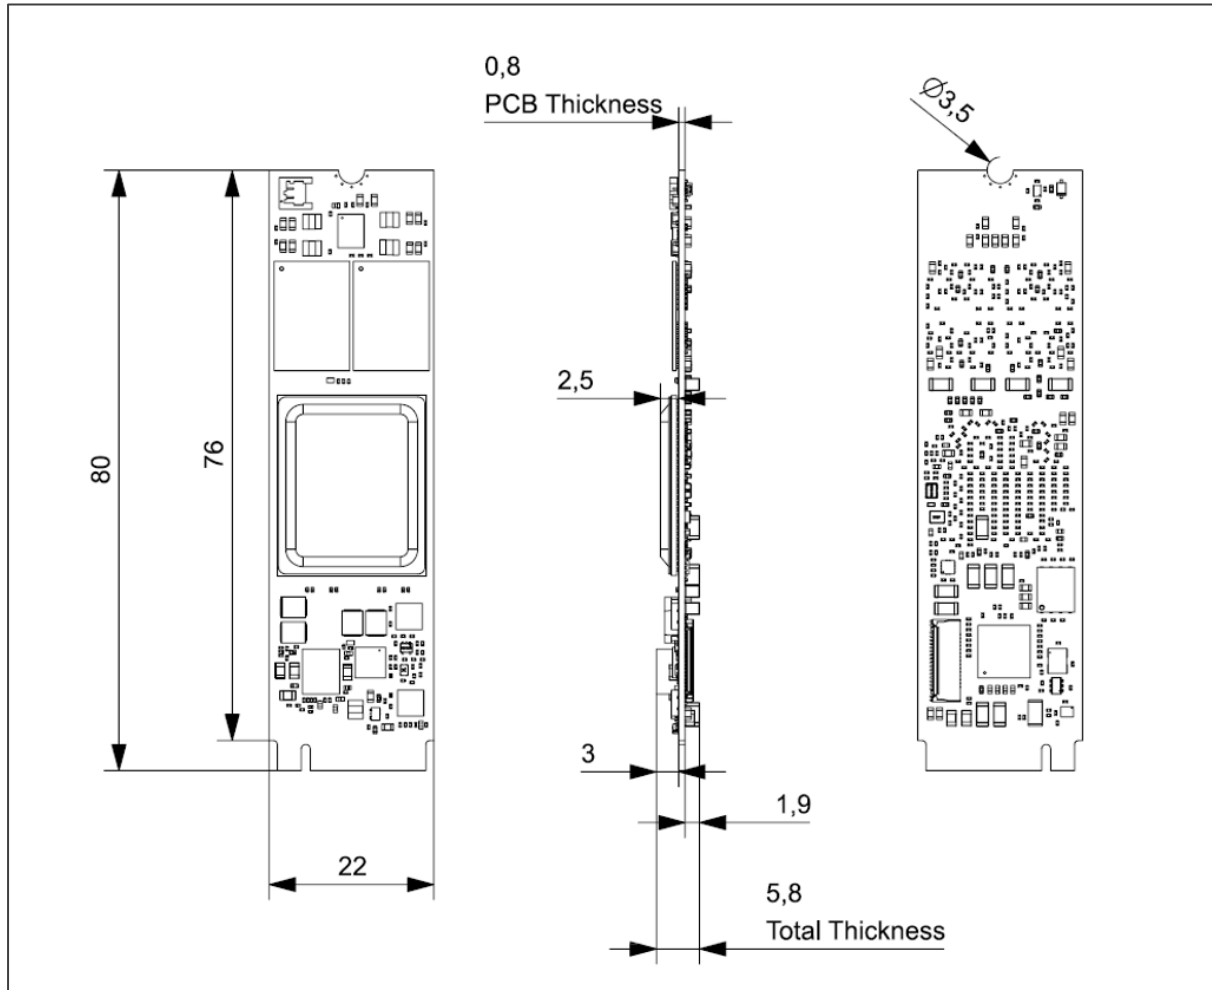

Figure 2: Board dimensions of the Axelera Embedded 113m card
- Figure 2 shows the board layout and dimensions.